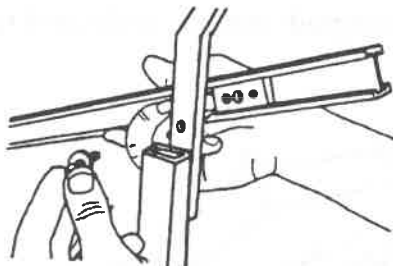
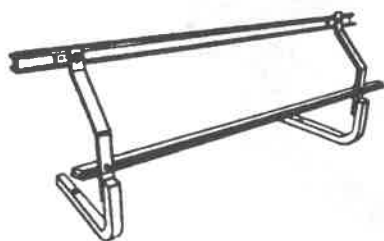

Figure 1
Figure 2
2. Slide a T-nut (2) into the channel (1). Attach the T-nut to the Lathe Duplicator's support bracket with a black cap screw (3) and flat washer (4), as shown in Figure 1. Do the same for the other side of the channel. When attached, the Lathe Duplicator should look like Figure 2.